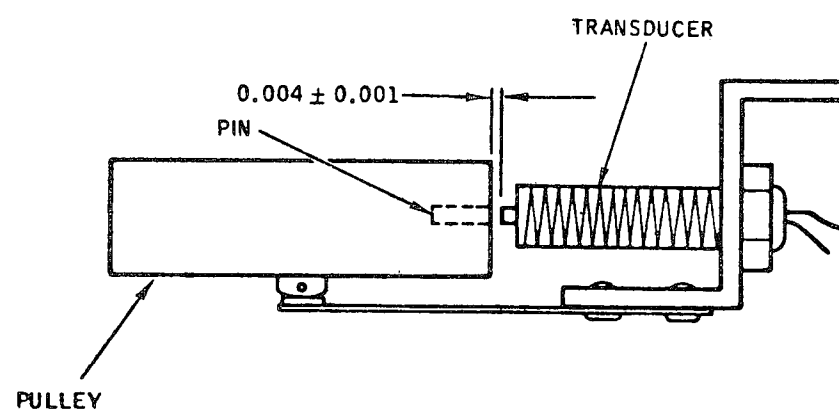

Figure 3-11. Speed Transducer Gap Limits
4. Using nonmagnetic shim material as a feeler gauge, check the gap between the transducer and the carbon steel pin in the spindle pulley. It should be 0.006 ± 0.001 inch, as indicated in Figure 3-11. Also check that the end of the transducer coil is aligned with the pin.